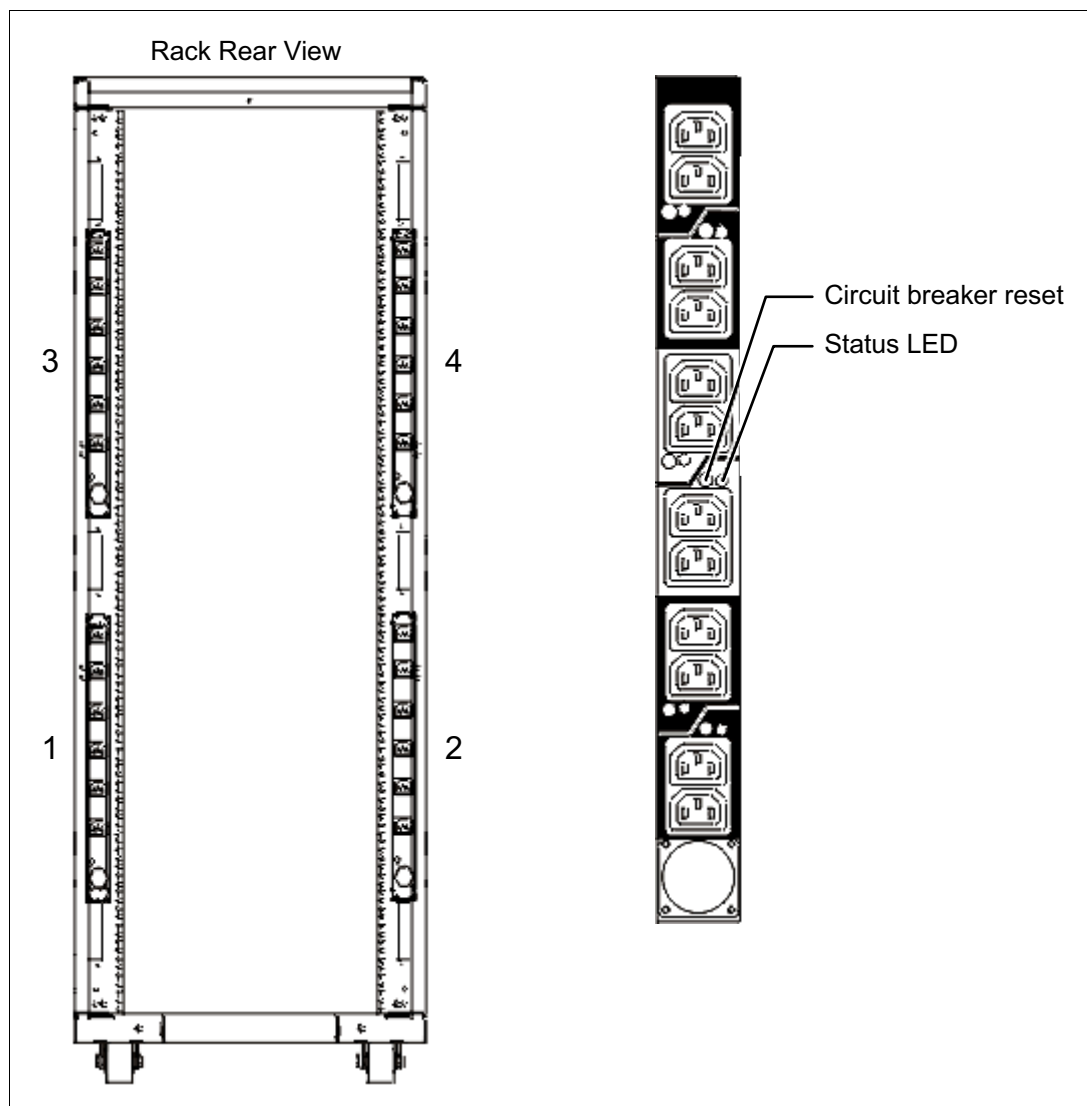

Figure 1-11 PDU placement and PDU view
- ▶ Up to four power distribution units (PDUs) can be mounted in the PDU bays (see Figure 1-11 on page 29), but others can fit inside the rack. See 1.11.7, “The AC power distribution unit and rack content” on page 28.
Four PDUs can be mounted vertically in the back of the T00 and T42 racks. Figure 1-11 shows placement of the four vertically mounted PDUs. In the rear of the rack, two additional PDUs can be installed horizontally in the T00 rack and three in the T42 rack. The four vertical mounting locations will be filled first in the T00 and T42 racks. Mounting PDUs horizontally consumes 1U per PDU and reduces the space available for other racked components. When mounting PDUs horizontally, the best approach is to use fillers in the EIA units that are occupied by these PDUs to facilitate proper air-flow and ventilation in the rack.